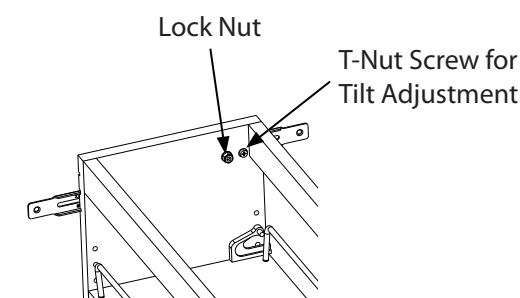

Fig 4
- 1) Loosen the (4) lock nuts with a 3/8" wrench inside the front wall of the unit. (See Fig. 4).
- 3) Use the (4) #6 x 1/2" flat head screws provided to attach the door to the pull out unit.